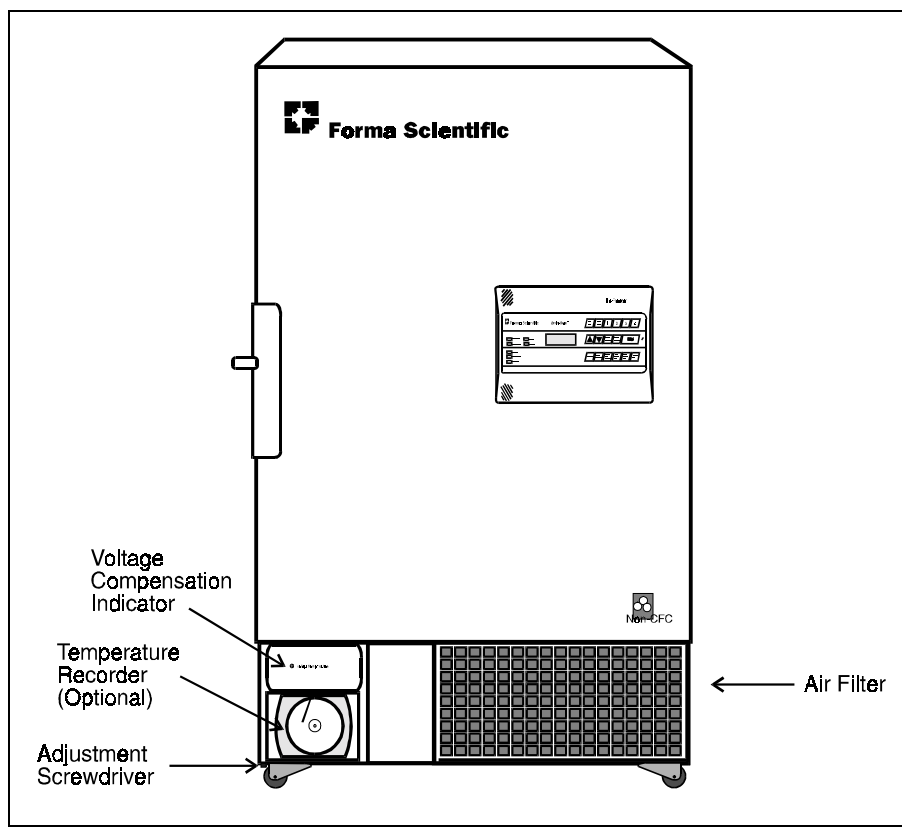

Figure 3-2
a. Set Point Adjustment Screw located to the right of the Enter key is used to set the operating temperature of the freezer. An adjustment screwdriver is located on the bottom of the compressor section front panel. (See Figure 3-2).
A small screwdriver, located on the freezer frame below the compressor section, is used to set the Temperature Set Point. To remove the screwdriver from its holder, pull downward on the black knob. The knob is the handle of the screwdriver. Refer to Figure 3-2.
5. If an operating temperature other than that in the window is desired, turn the Temperature Set Point screw using the adjustment screwdriver. The set point screw is located to the right of the Enter key on the Enviro-Scan Monitor control panel. (The adjustment screwdriver is located on the bottom of the freezer frame. Refer to Figure 3-2.)